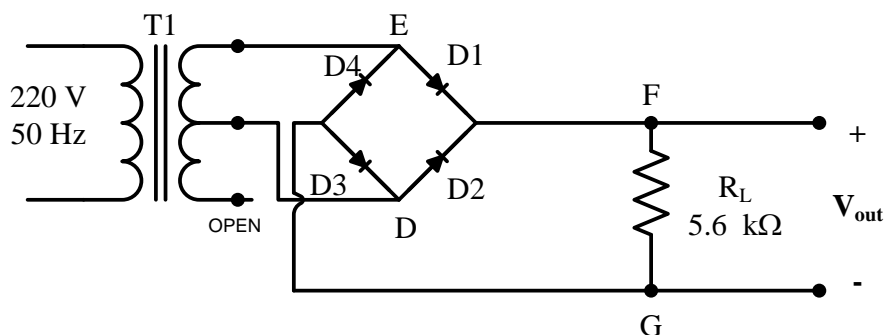

Figure 6-9: A bridge rectifier circuit.
1. Connect a full-wave bridge rectifier as shown in Figure 6-9. Note that one end of the transformer secondary is open.